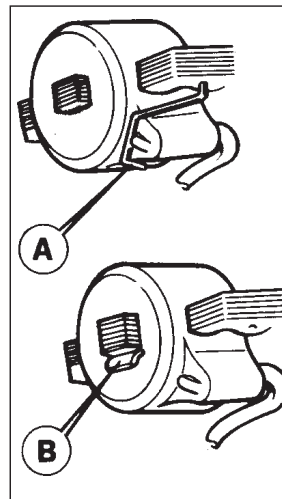

Fig. 13
- Remove coil by releasing retainer spring 'A' or by straightening the lamination of the core 'B' (Fig 13).